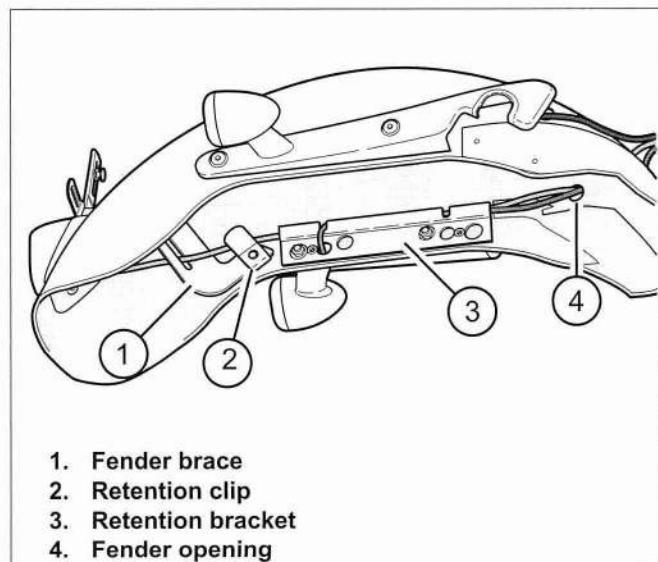

Figure 2-200. Inner Rear Fender: XL 1200C/CP
5. See Figure 2-200. Route the turn signal wire harness through the openings (4) in the fender and from the retention bracket (3).